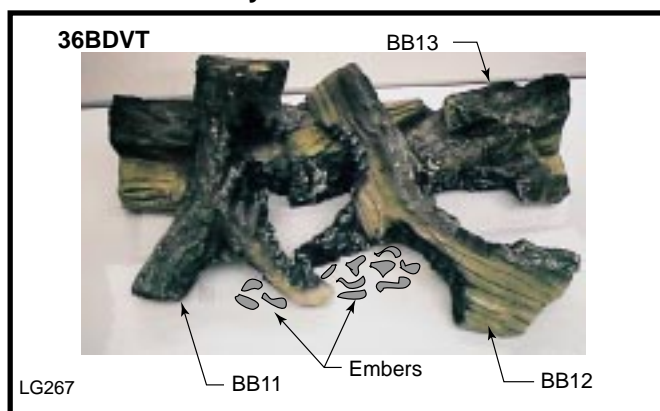

Fig. 37 36BDVT log placement.
Refer to Figure 37.
6. Scatter the ember material over the front area of the burner housing assembly. (Fig. 37) Do not pack this material tightly, separate it when unpacked and keep it in a loose condition.